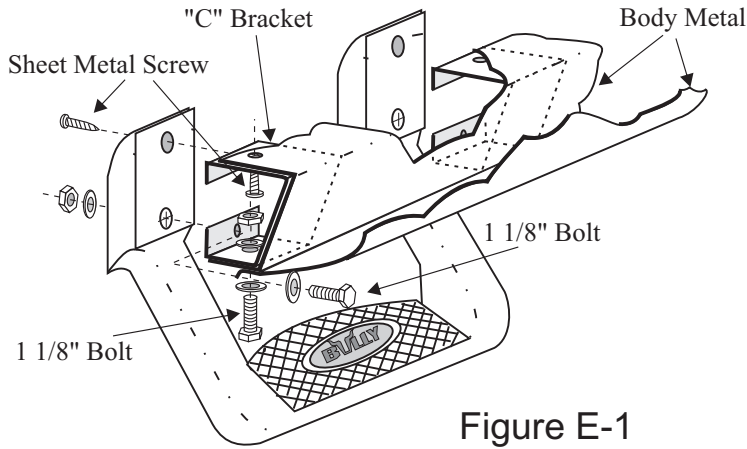

Figure E-1
5. Place the "C" shaped bracket up inside the rocker panel (see Fig. E-1 & E-3), carefully maneuver the brackets into the required position. Mark a point onto the "C" bracket through the 3/8" hole just drilled on the pinch weld flange, remove the bracket and drill a 3/8" hole at the marked point.